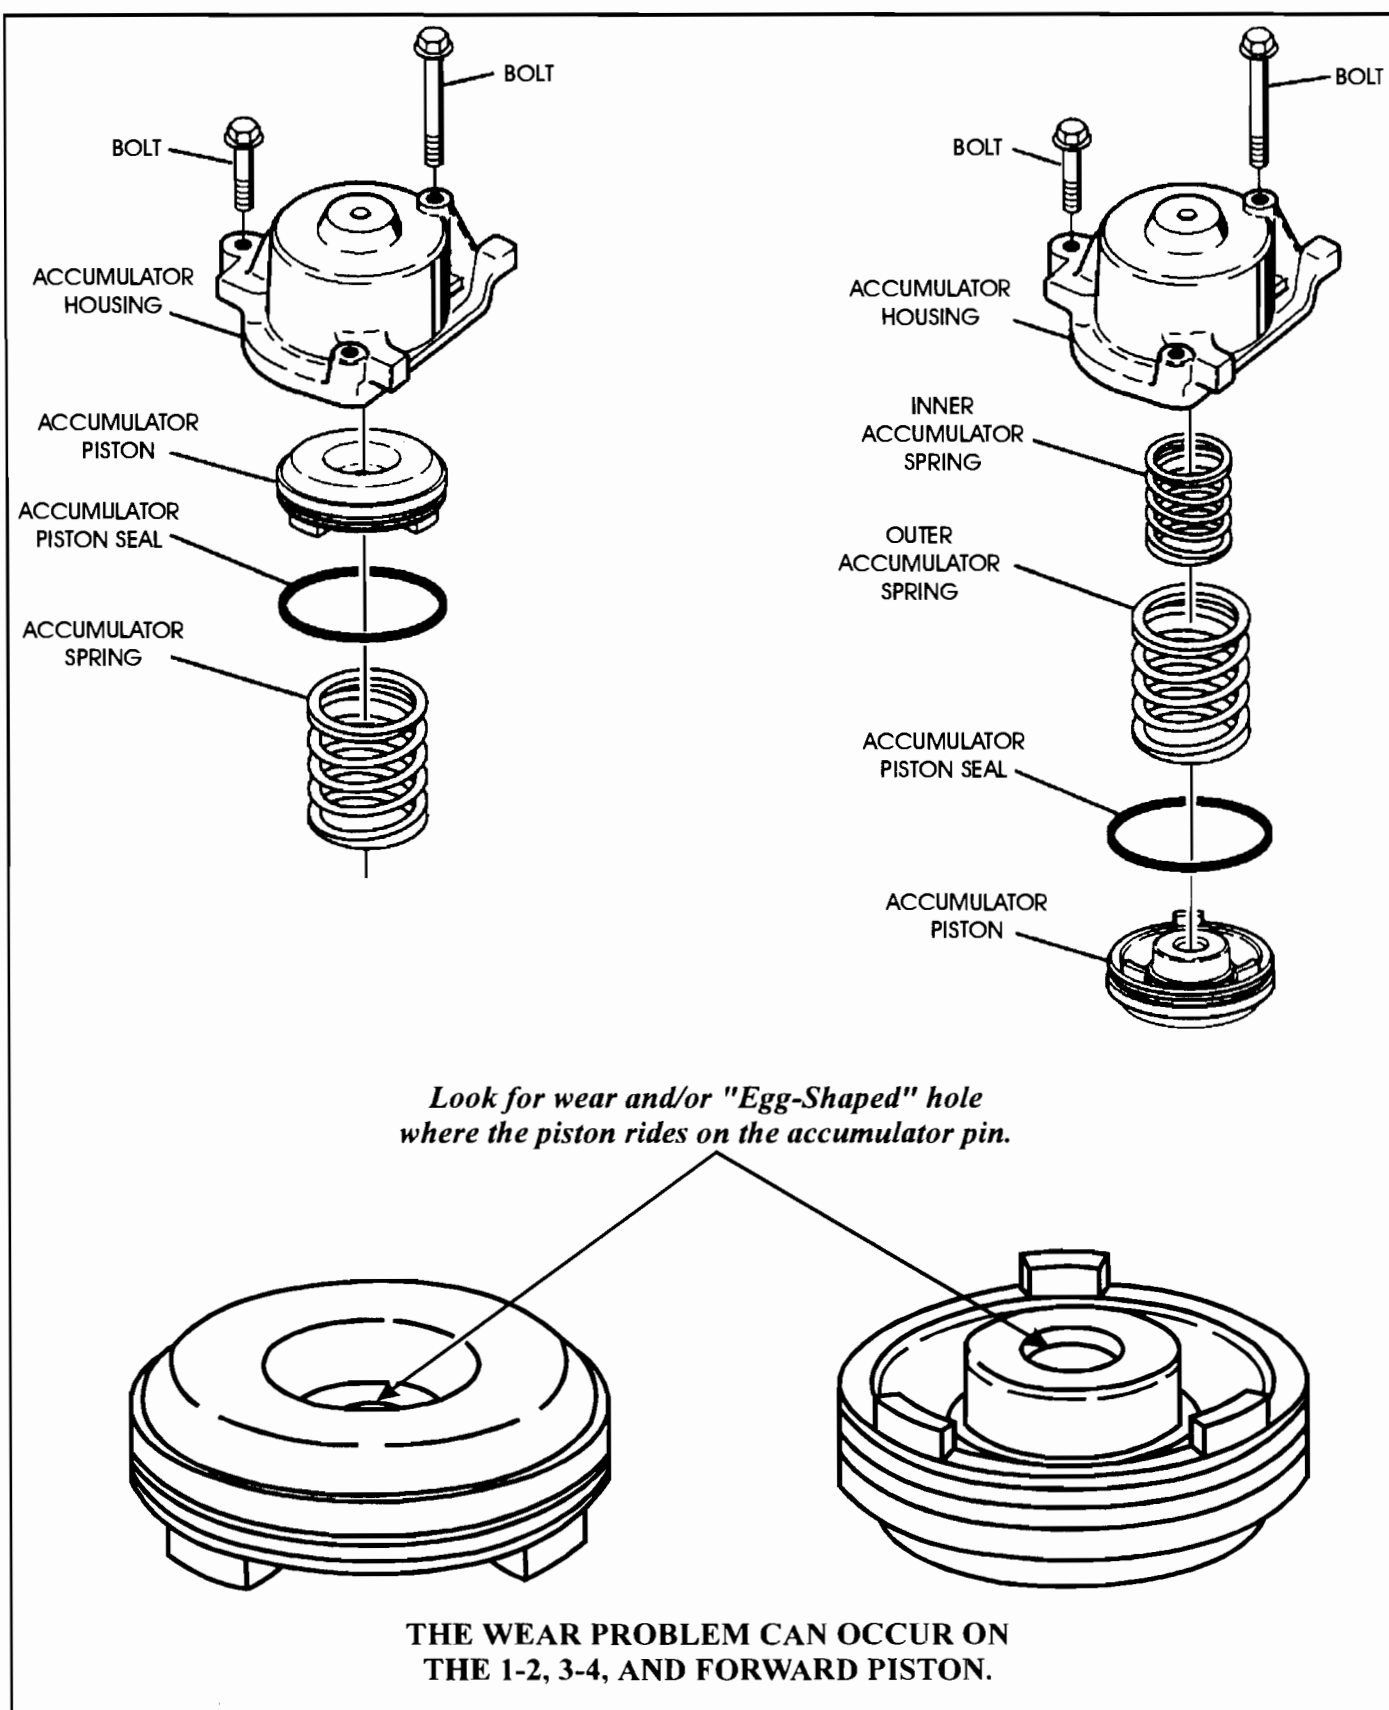

Figure 1
CAUSE: The cause may be, a worn accumulator piston pin bore (See Figure 1).
CHANGE: Beginning at the start of production for all 1997 models, there was a new design 13 vane pump rotor and new design pump slide installed in all THM 4L60-E transmissions (See Figure 1).
- (1) OIL PUMP ROTOR - Now has 13 vanes in the pump rotor instead of the previous 10 vanes, as shown in Figure 1.
- (2) OIL PUMP SLIDE - Now has longer porting slots on the face of the slide (See Figure 1).
- (3) ROTOR GUIDE - Now has 13 slots in the rotor guide to accommodate the added vanes.